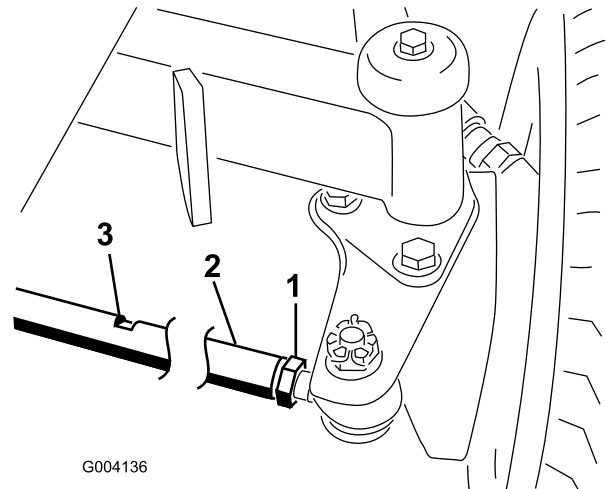

Figure 44
2. Loosen the jam nut on each end of the tie rod (Figure 44).